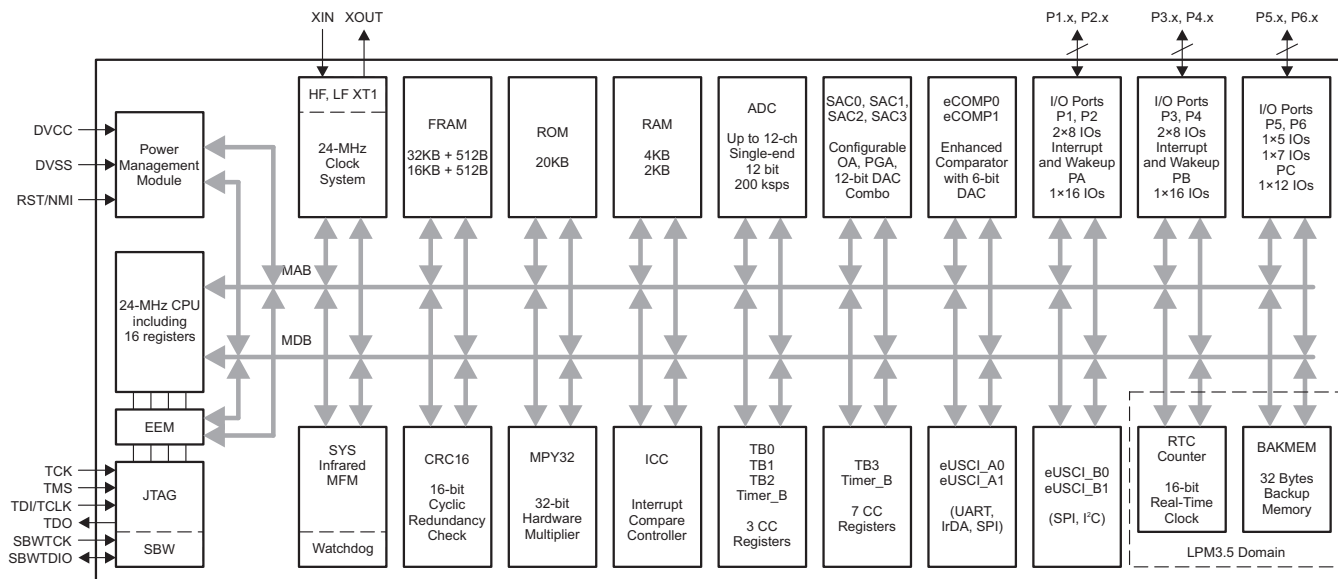
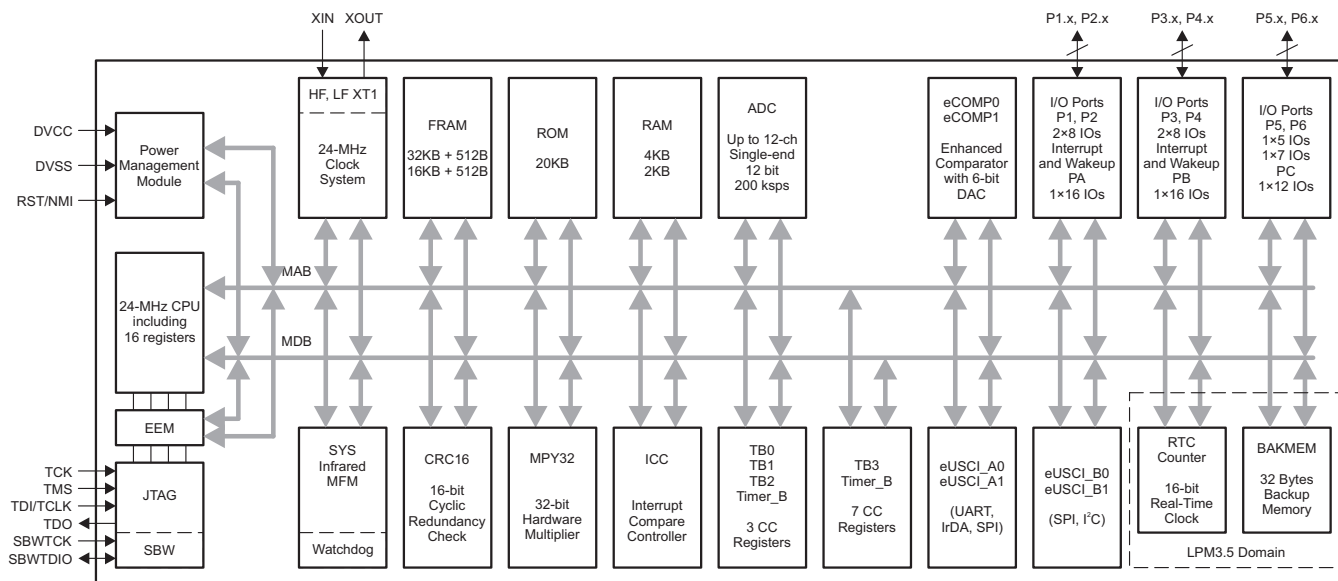

Figure 1-1. MSP430FR235x Functional Block Diagram
Figure 1-2. MSP430FR215x Functional Block Diagram
Figure 1-1 shows the MSP430FR235x functional block diagram.
Figure 1-2 shows the MSP430FR215x functional block diagram.
- Corrected the ROM size in Figure 1-1 MSP430FR235x Functional Block Diagram and Figure 1-2 MSP430FR215x Functional Block Diagram 4 - Added a note on all VQFN pinouts to indicate that the thermal pad should be connected to VSS 11 - Corrected Figure 4-4, 32-Pin RSM (VQFN) (Top View) – MSP430FR235x..... 13 - Changed the note that begins "Supply voltage changes faster than 0.2 V/μs can trigger a BOR reset..." in Section 5.3, Recommended Operating Conditions 27 - Added the note that begins "TI recommends that power to the DVCC pin must not exceed the limits..." in Section 5.3, Recommended Operating Conditions 27 - Changed the note that begins "A capacitor tolerance of $\pm 20\%$ or better is required..." in Section 5.3, Recommended Operating Conditions 27 - Combined former sections 5.8 and 5.10 into Section 5.9, Production Distribution of LPM Supply Currents 31 - Corrected the "SVS disabled" condition for Figure 5-1 31 - Added the note "See MSP430 32-kHz Crystal Oscillators for details on crystal section, layout, and testing" to Table 5-3, XT1 Crystal Oscillator (Low Frequency) 35 - Changed the note that begins "Requires external capacitors at both terminals..." in Table 5-3, XT1 Crystal Oscillator (Low Frequency) 35 - Added the $t_{TB, cap}$ parameter in Table 5-13, Timer_B..... 45 - Corrected the test conditions for the R_I parameter in Table 5-20, ADC, Power Supply and Input Range Conditions. 51 - Removed ADCDIV from the equation for the ADC conversion time because ADCCLK is after division in Table 5-21, ADC, Timing Parameters 51 - Added the note that begins "$t_{Sample} = \ln(2^{n+1}) \times \tau$..." in Table 5-21, ADC, Timing Parameters 51 - Changed the unit from "nV" to "μV" for the "Input noise voltage" in the Table 5-25, SAC, OA 55 - Changed the unit from "nV/Hz" to "nV/$\sqrt{\text{Hz}}$" for the "Input noise voltage density" in the Table 5-25, SAC, OA 55 - Removed the I_{ref} trim parameter from Table 5-27, FRAM 57 - Changed the bitfield name from RTCCLK to RTCKSEL in the table note on Table 6-9, Clock Distribution 68 - Added Section 6.10.17, Cross-Chip Interconnection (SACx are MSP430FR235x Devices Only) 83 - Added P1SELC information in Table 6-41, Port P1, P2 Registers (Base Address: 0200h) 86 - Added P2SELC information in Table 6-41, Port P1, P2 Registers (Base Address: 0200h) 86 - Added P3SELC information in Table 6-42, Port P3, P4 Registers (Base Address: 0220h) 87 - Added P4SELC information in Table 6-42, Port P3, P4 Registers (Base Address: 0220h) 87 - Added P5SELC information in Table 6-43, Port P5, P6 Registers (Base Address: 0240h) 87 - Added P6SELC information in Table 6-43, Port P5, P6 Registers (Base Address: 0240h) 87 - Changed CRC covered end address to 0x1AF7 in table note (1) in Table 6-70, Device Descriptors 107